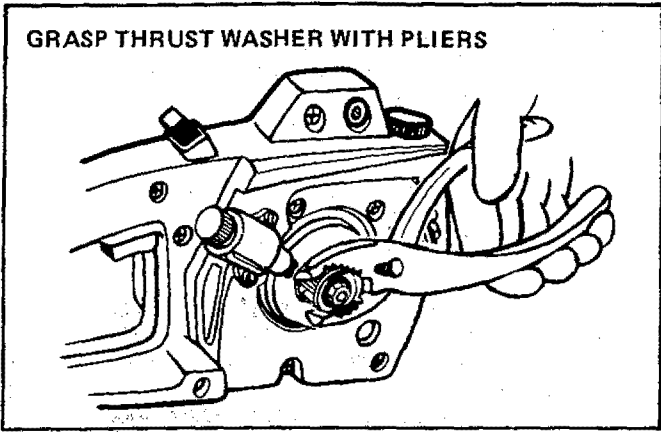

Figure 45
- Grasp the thrust washer with pliers as shown in Figure 45.